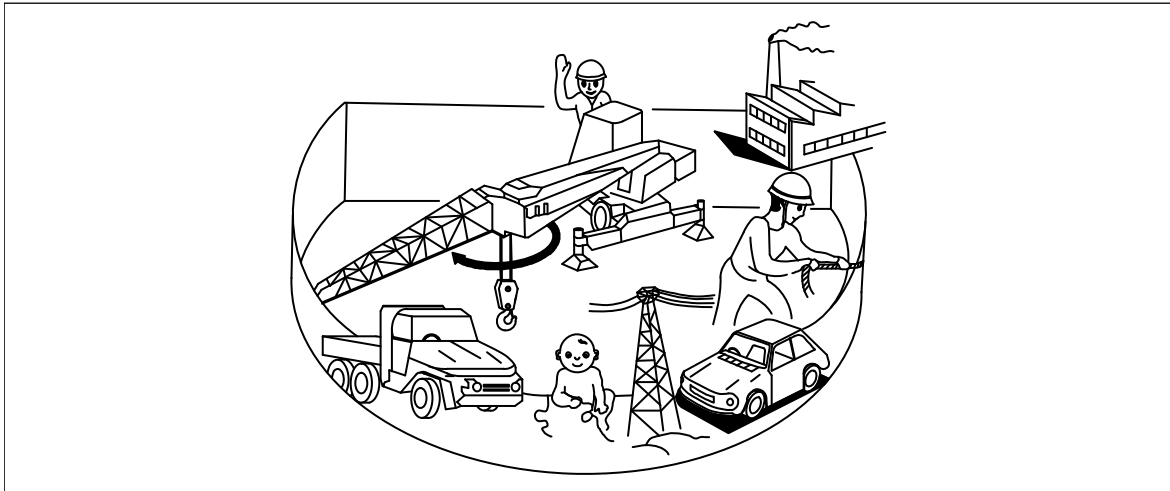

Figure 7-46 Hazard Area – Jib Swing
- Make sure that the area is clear of personnel and equipment before you move the jib around. Refer to Figure 7-46.